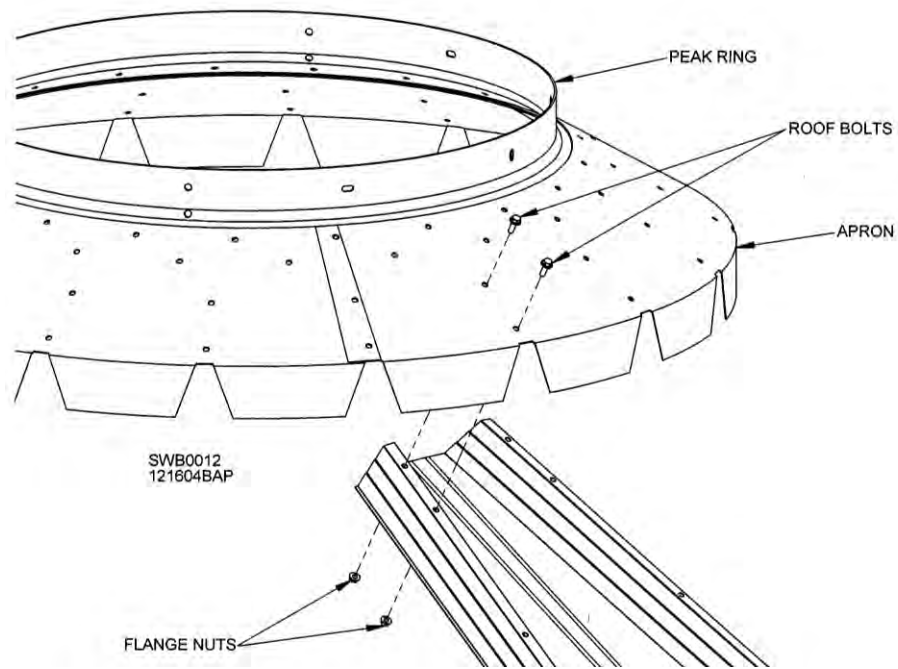

Fig. 6
Attach top of roof sheet to apron using two (2) 5/16 x 1-1/4" bolts and 5/16" flange nuts. See Fig. 6. Leave bolts out of right-hand rib at top, as shown. This will allow assembly in **counterclockwise** direction. Leaving this rib unattached will allow next roof panel to slide into place.